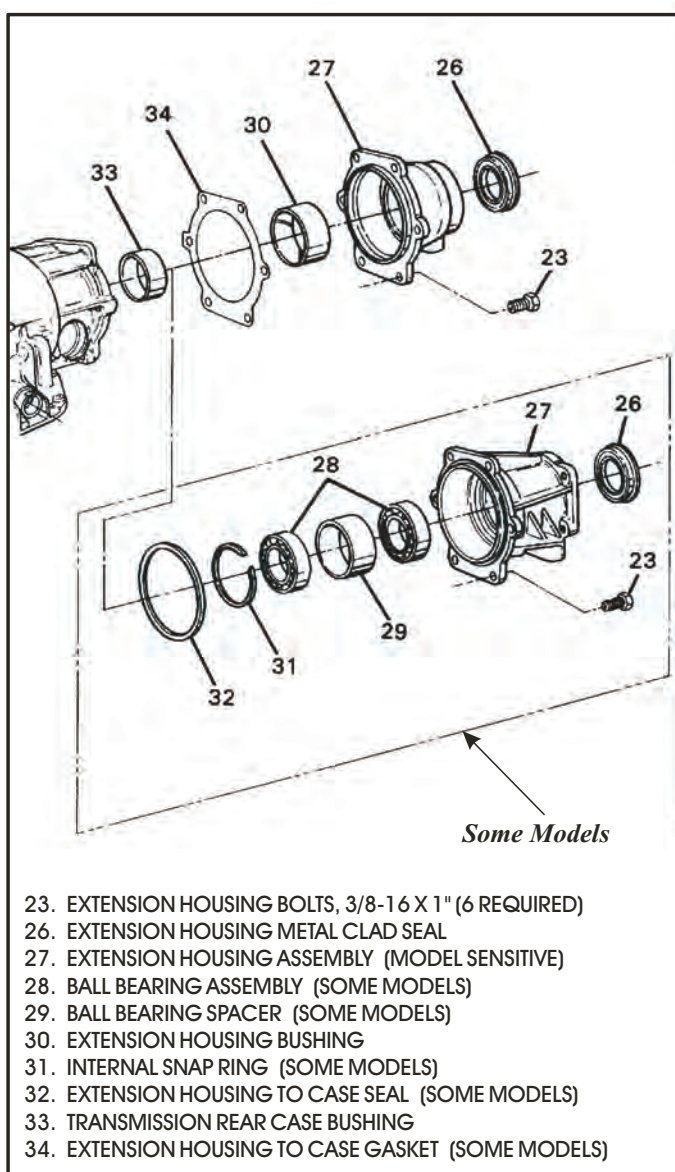

Figure 37
5. Remove the six extension housing bolts and remove the extension housing (See Figure 37).
6. Remove and discard the extension housing seal or gasket (See Figure 37).